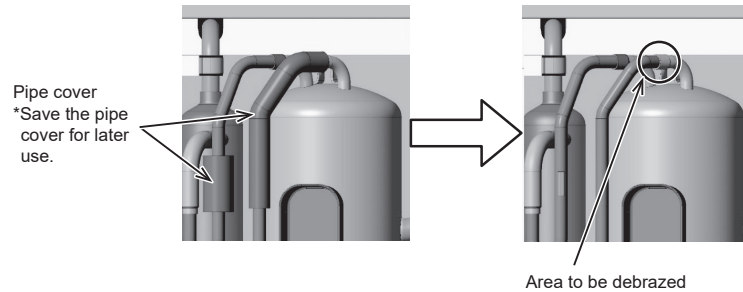

Figure 8
- (8) Remove the pipe cover, and remove the braze at the position shown. (Debrazing: 1 place, Figure 8) (applicable to EP only)